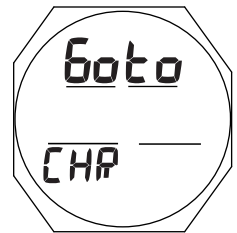

Fig. 10 - CHRONO LEAD-IN
**Chrono Lead-in**, information includes (Fig. 10):